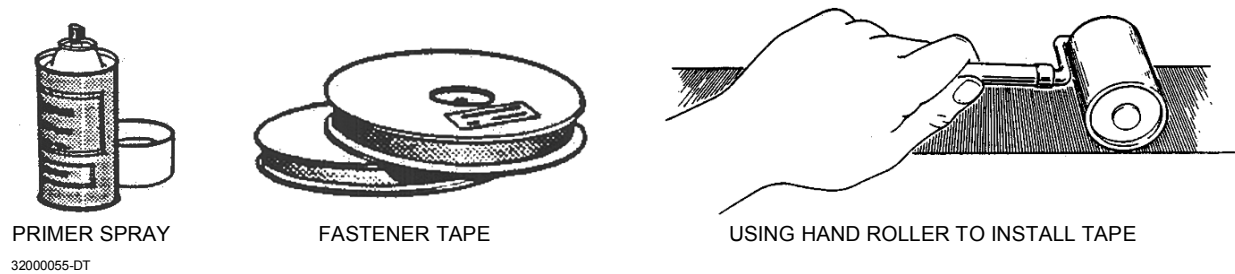

Figure 2-20. Fastener Tape Preparation.
- b. Spray a heavy coat of tape primer on the cleaned areas along the strip where the fastener tape will be applied. Allow primer to dry thoroughly (follow the directions on the primer can) before applying the fastener tape. (See Figure 2-20.)